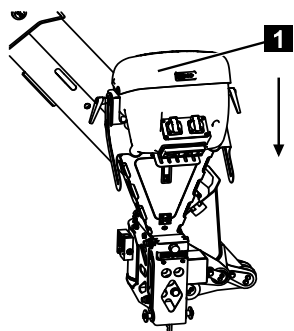

Fig. 226
3. Push the control unit (Fig.226/1) down in the direction of the arrow.